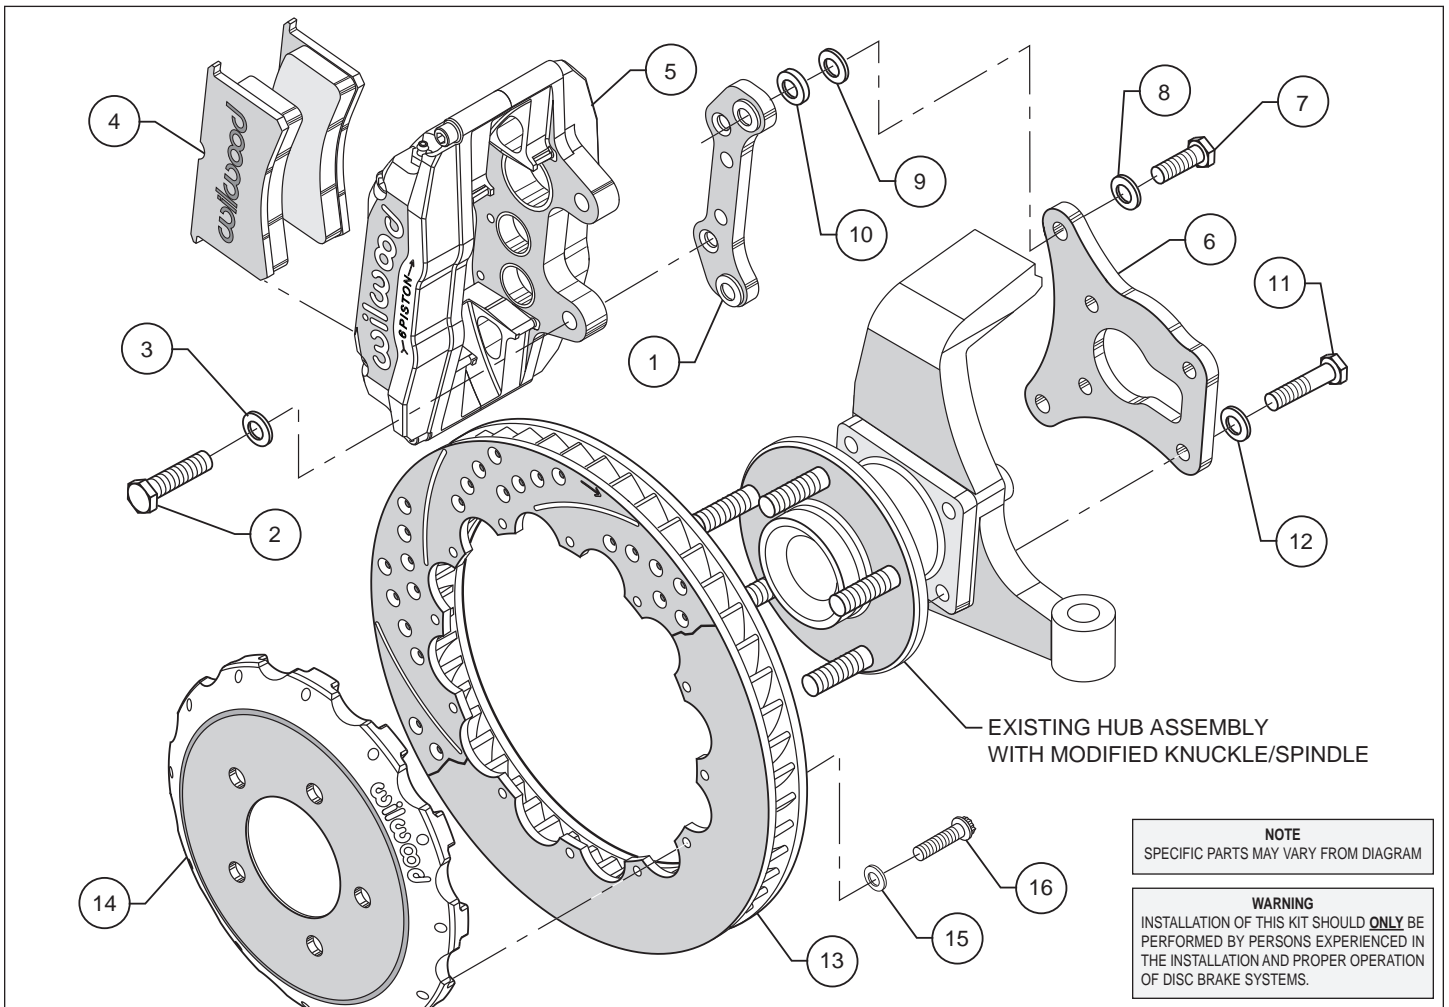
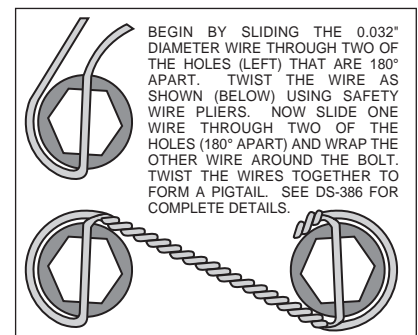

Figure 1. Typical Installation Configuration
Figure 4. Safety Wire Diagram
- Mount bracket (6) to the backside of the spindle/hub assembly using bolts (11) and flat washer (12).
- With the larger I.D. side of the rotor (13) facing away from the hat (14), bolt rotor to hat using washers (15) and bolts (16). Using an alternating sequence, apply red *Loctite*® 271 to the threads and torque bolts to 155 in-lb. For an added measure of security, the bolts may be safety wired using standard 0.032 inch diameter stainless steel safety wire as shown in Figure 4. Please refer to Wilwood's data sheet DS-386 (available at www.wilwood.com/Pdf/DataSheets/ds386.pdf) for complete safety wire installation instructions. Slip the rotor and hat combination onto the wheel studs and hold in place with three lugs nuts.
- Apply red *Loctite*® 271 to bolt threads (2) before mounting caliper to the caliper mounting bracket (1). **NOTE:** Be sure the heads of the 7/16-20 bracket (1) insert nuts are facing outward toward the wheel.
NOTE: Please reference the caution statement at the beginning of the assembly instructions. With the bleed screws pointing up, mount the caliper (5) to the caliper mounting bracket (1) using bolts (2) and washers (3), as shown in Figure 1. Torque bolts (2) to 60 ft-lb. Mount caliper/bracket combination to the spindle bracket (6) using bolts (7) and washers (8), while placing a shim (9) and spacer (10) between the two brackets (1 and 6) as shown in Figure 1. Finger tighten only at this time.
•View the rotor (13) through the top opening of the caliper (5). The rotor should be aligned in the center of the caliper (5). If not, adjust the caliper (5) by using 0.030 inch thick shims (9) placed between the caliper mounting bracket (1) and the spindle bracket (6). Finger tighten and recheck alignment. Apply red *Loctite*® 271 to bolt threads (7) and torque to 60 ft-lb.
•Remove the bridge bolt from the caliper (5) and install the disc brake pads (4). Reinstall the caliper bridge bolt.